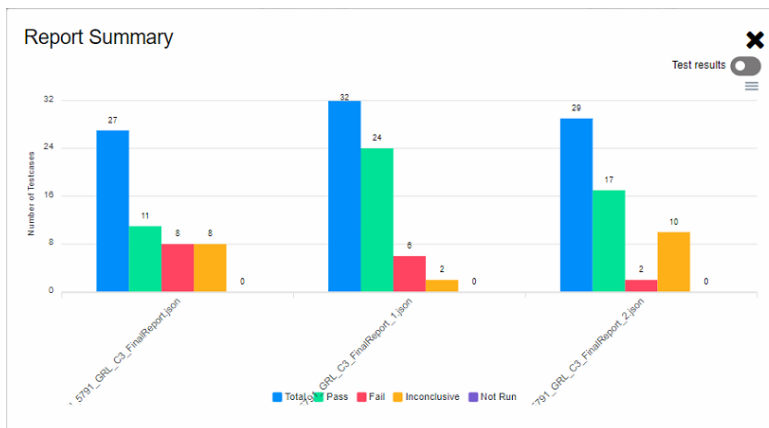

FIGURE 8.87: JSON REPORT TEST RESULTS SUMMARY EXAMPLE
-  – Click on this icon to view a summary of the JSON report. An example is as shown in Figure 8.87 below which displays the number of test cases with their respective test run results for each JSON report.